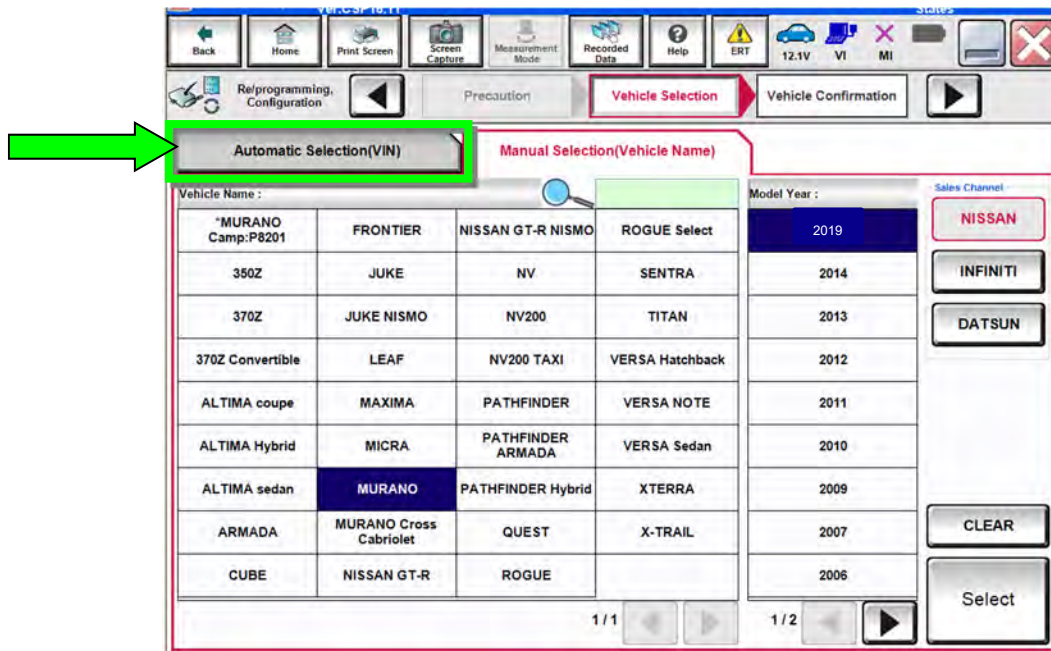

Figure 3
13. If the screen in Figure 3 appears, select **Automatic Selection(VIN)**.